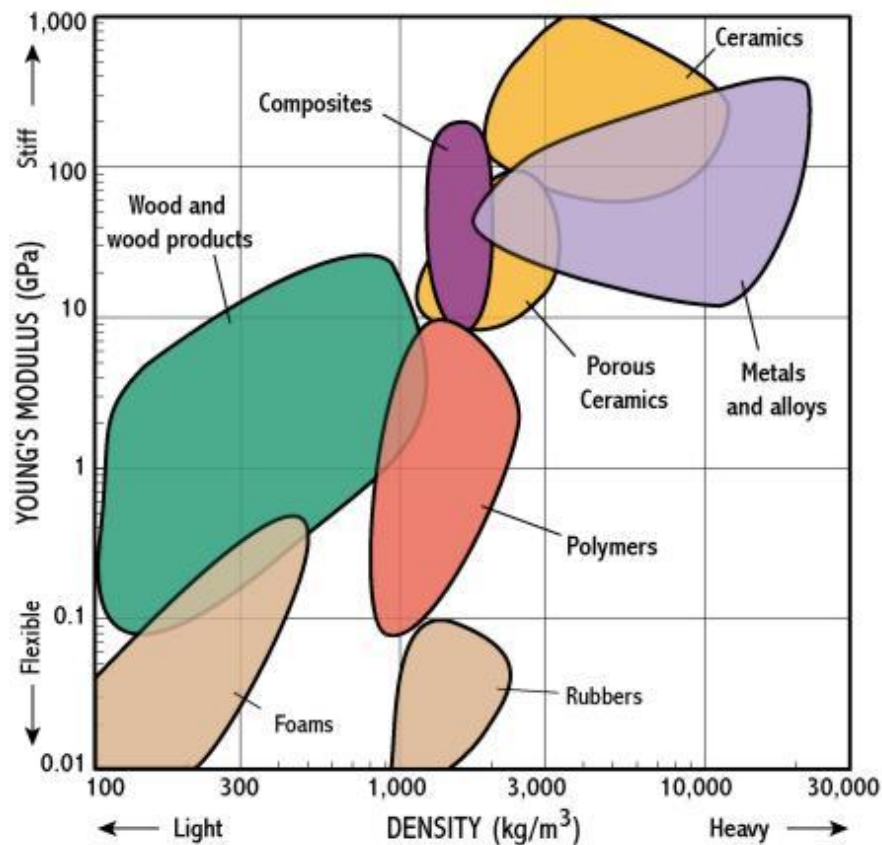

Figure 3: Material Properties Chart
- (b) Explain the material properties based on chart in the Figure 3. (6 marks)
- (c) Propose **TWO (2)** examples of application that require stiff materials and **ONE (1)** that require low density materials. (6 marks)